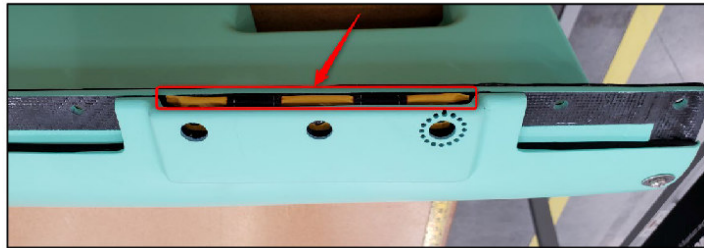

Figure 2: RH Cover with Cutout (LH Opposite)
2. If the cover looks like Figure 2, with the correct cutout, no further action is required.